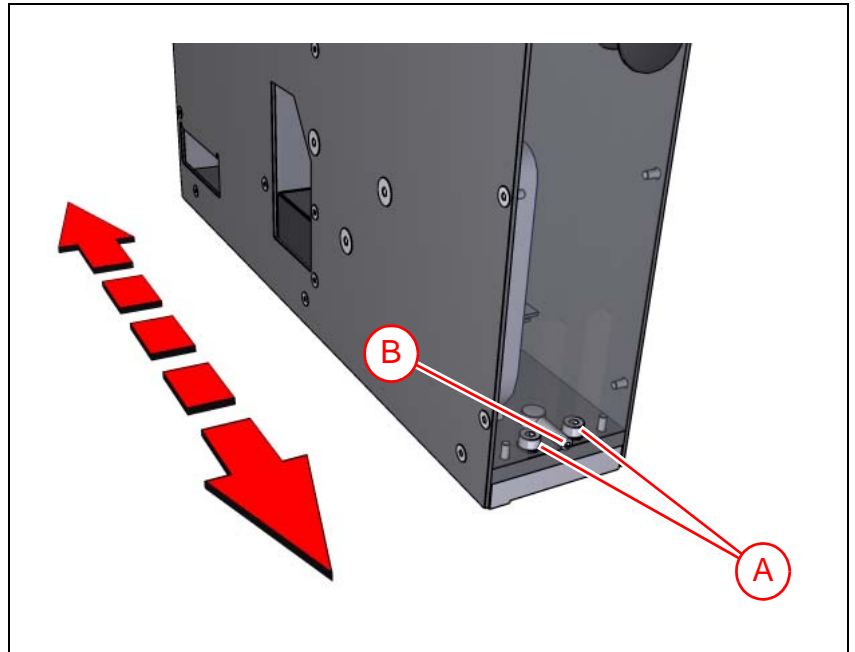

Figure 9-14. Adjust camera Y-position.
2. Loosen the two screws located at the front of the camera box ('A' in Figure 9-14).